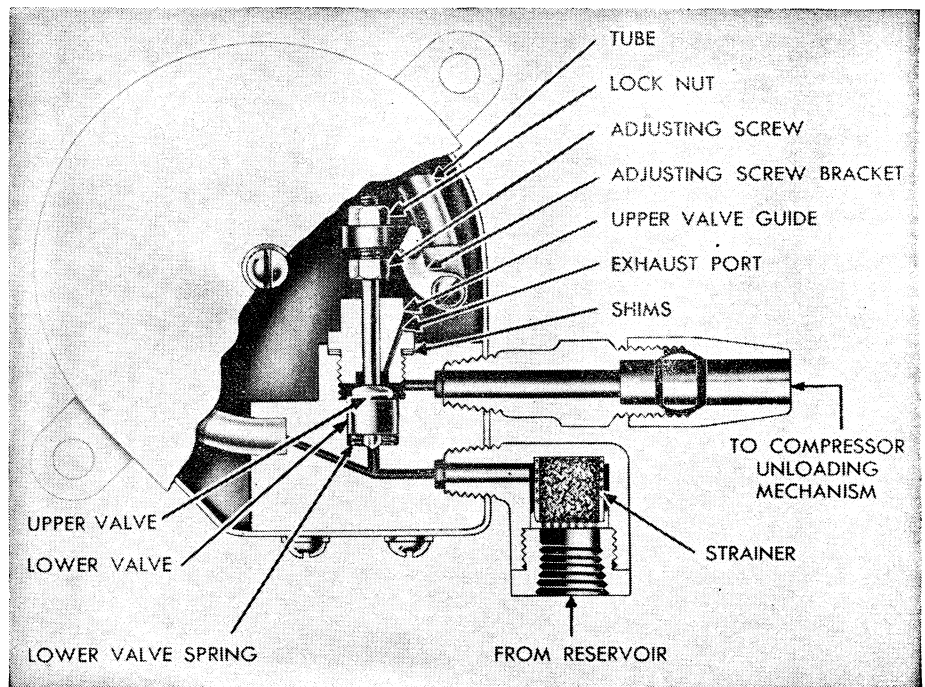

Fig. 8 Sectional view of Type O-1 Governor
The design of the compressor governor is based on the principle of a Bourdon tube, which is a flattened metal tube bent to a curve that tends to straighten under internal pressure, Fig. 8. This reaction by the tube, due to changes in air pressure in the tube, increases or decreases the spring load on the valve mechanism of the governor and makes the valve mechanism assume its "cut in" or "cut out" posi-
may be adjusted after removing the cover. The pressure settings are raised by loosening the adjusting screw lock nut and turning the adjusting screw clockwise viewed from the top, Fig. 8. Pressure settings may be lowered by turning the adjusting screw counter-clockwise. The lock nut must be tightened after any adjustment.
6. Adjustment of the range between the cut-in and cut-out pressure is made by removing shims beneath the upper valve guide, Fig. 8, to increase the range or by installing additional shims to decrease the range.